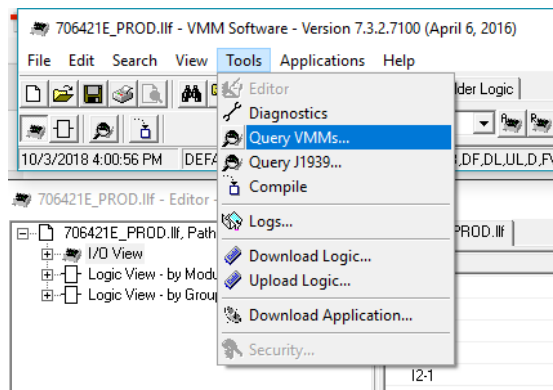

Figure 1: VMM Query
6. Select Tools and Query VMMs. Refer to Figure 1.